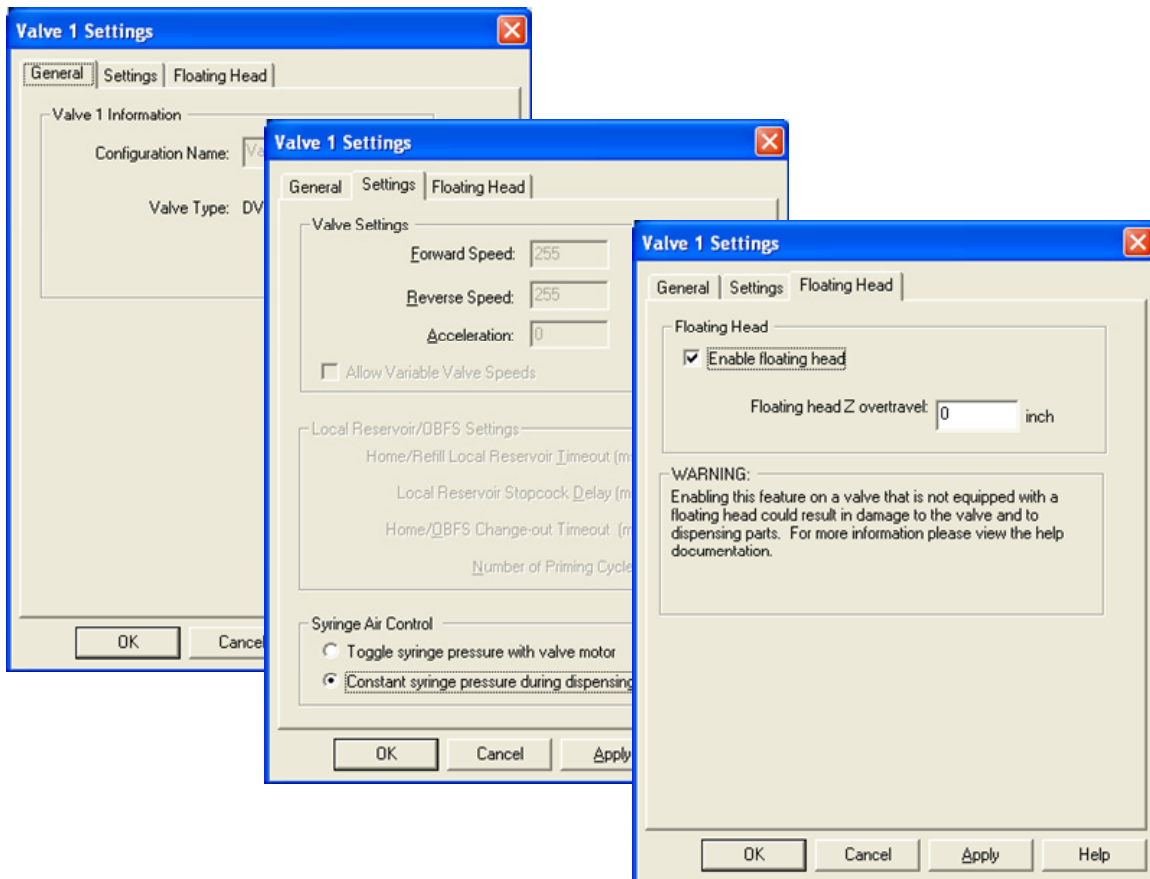

Figure 3-17 Enabling the Floating Head
- b. In the Settings dialog box, click on the **Settings** tab and click on the radio button next to **Constant syringe pressure during dispensing** (Figure 3-17).
- c. Click on the **Floating Head** tab and click in the box next to **Enable Floating Head**. A checkmark in the box indicates the feature is enabled (Figure 3-17).